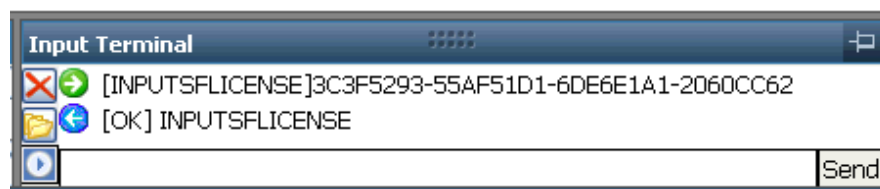

Figure 109: Input Terminal – Confirmation of StarFire License Upload
The *Input Terminal* window also displays the outcome of the upload. In the example in Figure 109, the upload is successful.
3. Click **Send** to upload the license. A confirmation message is displayed in the *Input Terminal* window (see Figure 109).